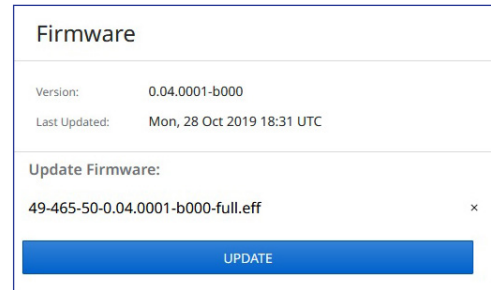

Figure 38. Firmware Update Dialog Box
4. Click **UPDATE** to begin (see figure 38). To cancel the update, click the **X** button in the **Update Firmware** panel.